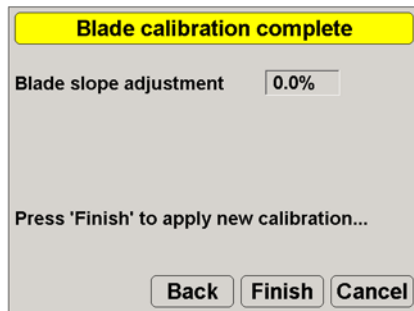

Figure 4-11. Blade Calibration Complete
6. Press **Next** and wait five seconds until the Blade calibration complete dialog box displays (Figure 4-11).